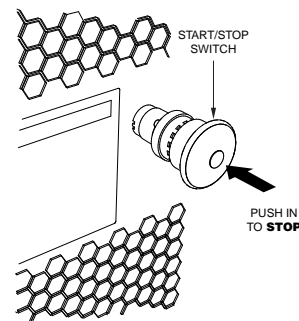

Figure 22. Start/Stop Switch (OFF Position)
- After the engine cools, push the Start/Stop switch on the engine cover inward to the **"OFF"** position (Figure 22).